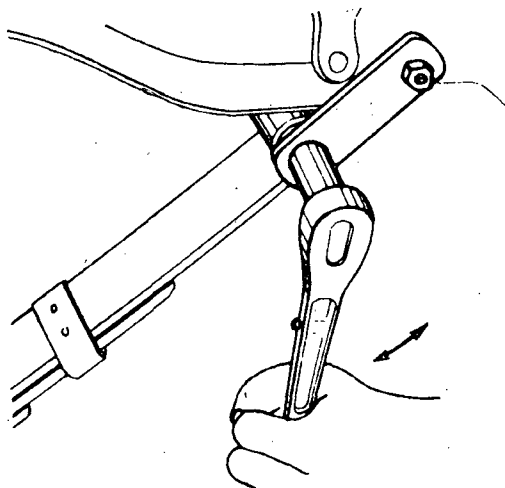

Fig. 3
- e) Remove the nuts and plates of the shackles (fig. 3).